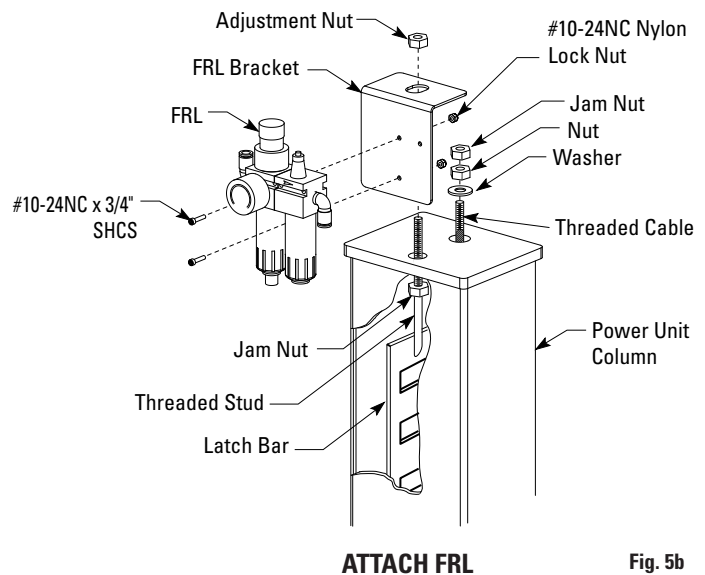

Fig. 5b
- Place FRL Bracket on top of power unit column. Guide the threaded stud through the hole in the column top plate and bracket, Fig. 5b. Then thread the adjustment nut down the threaded stud until the nut and top plate are flush, Fig. 5b. Repeat for other columns.